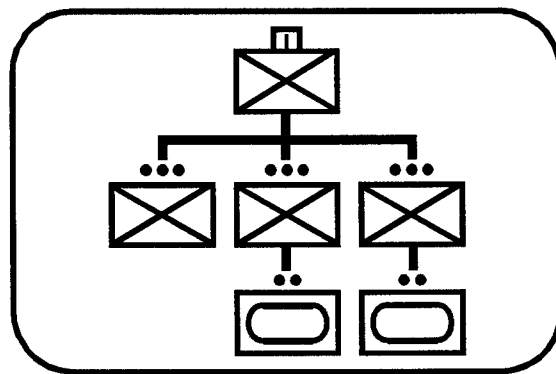

Figure 4-2
□ **Break the tank platoon into two sections, each under control of one infantry platoon (see Figure 4-2).** The commander relinquishes direct control of the tank maneuver to the infantry platoon leaders. This technique is **very effective in keeping the tanks at the same rate of progress as the infantry**. However, infantry platoon leaders burdened with the additional command and control responsibilities often *have a difficult time maneuvering the tank platoons* because of a lack of experience with tanks and overall battlefield focus. Typically the infantry platoon leader is focused on clearing a building and on his maneuver squads. This results in his *forgetting* the tanks and failing to maneuver them forward.